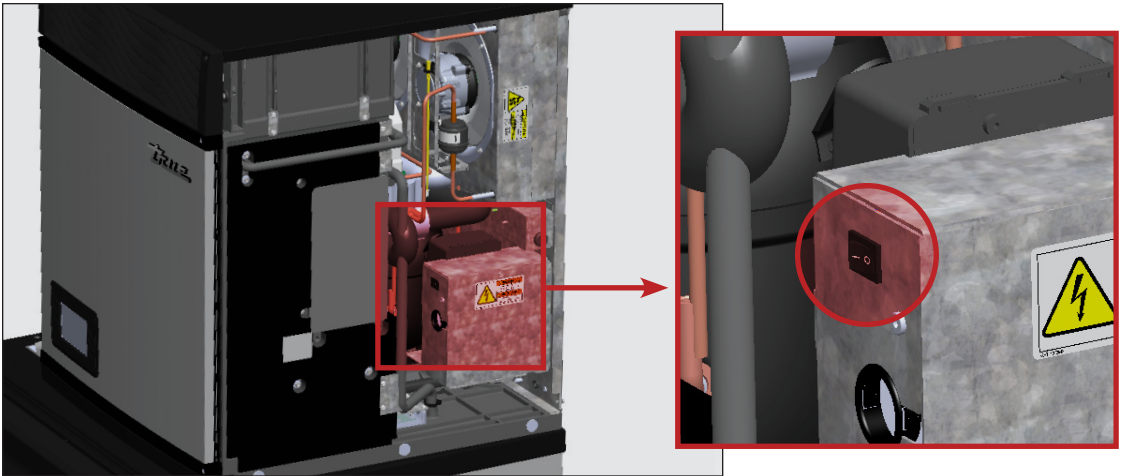

Fig. 2. Rocker switch location. Rocker switch disconnects power from the control board and front display; it **DOES NOT** disconnect power from the entire unit.
- Ice machines come equipped with a rocker switch. See location in fig. 2.